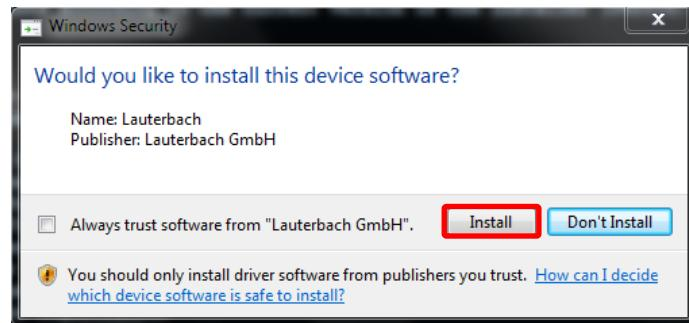

Figure 5.32: Device software installation
12. If you are asked to install the Lauterbach device software, click **Install** (see Figure 5.32 on page 38). Use the suggested default settings for the device software installation process.